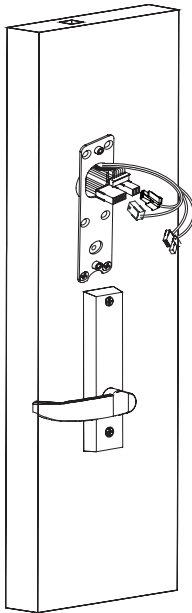

Fig. 6A
1. Attach mounting plate using (2) #8 x 1/2" self-drilling screws (Fig. 6A).